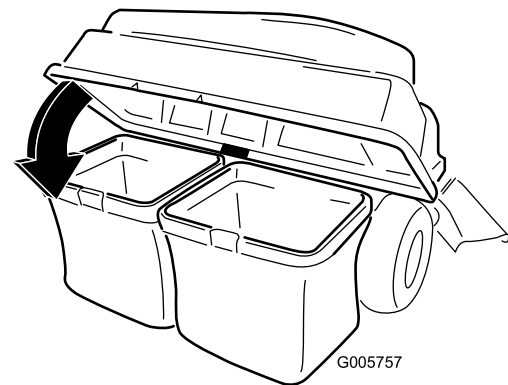

Figure 18
3. Lower the bagger top onto the bag (Figure 18).